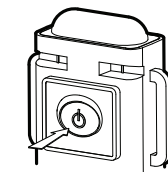

FIGURE 1
2. Push button to transfer from strobe ON to steady ON. See Fig. 1.
1. Light is manually activated by pushing the button on the front of the light.\* See Fig. 1.